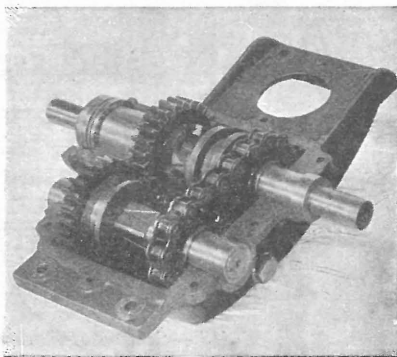
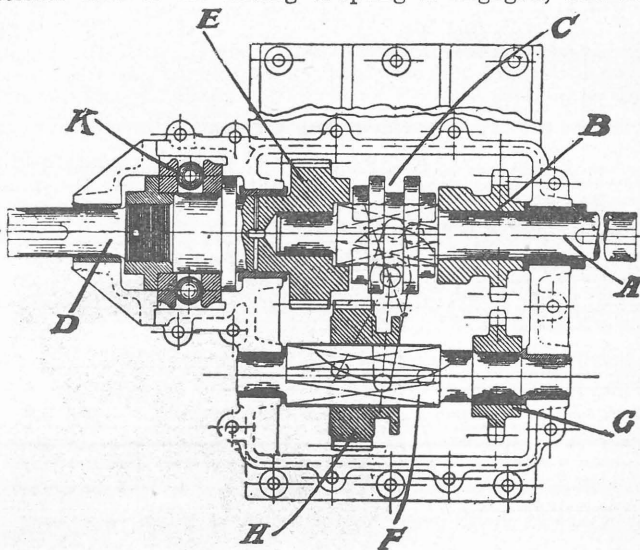

Fig. 2.
Fig. 3.—Section of Parsons gear.
There are a very great number of reversing gears on the market, and to describe all would take up far too much space. We will, however, explain how two of the number work. First we will take the Parsons gear, an illustration of which, with the top of the case removed, is shown in Fig. 2. The gear, it will be seen, is extremely simple. There are two shafts, a pair of gear wheels, and a chain drive. Fig. 3 shows the arrangement in section looked at from above. The action of the gear depends upon the fact that, if one shaft be driven by another by means of a chain, both shafts turn in the same
direction ; if instead of a chain a single pair of gear wheels be used, the two shafts will turn in opposite directions. In Fig. 3, A is the engine shaft, on which runs a loose chain wheel (B) and a double-faced jaw clutch or sliding coupling (C). This coupling is carried on a squared portion of the shaft so that, though it can be moved sideways, it always rotates with the shaft. On the left is the propeller shaft (D), to which is keyed a gear wheel (E). Both the chain wheel (B) and the gear wheel (E) are provided with jaw couplings corresponding to the sliding coupling (C). If, therefore, C be moved to the left to engage with E a direct ahead drive will be transmitted from the engine to the propeller shaft.